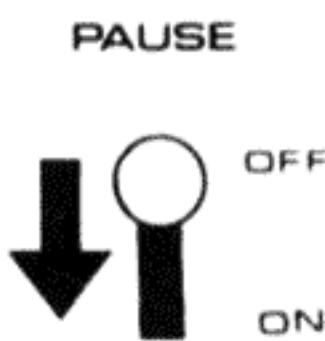

Fig. 32
12. To interrupt the recording momentarily, set the PAUSE switch at ON. See Fig. 32.